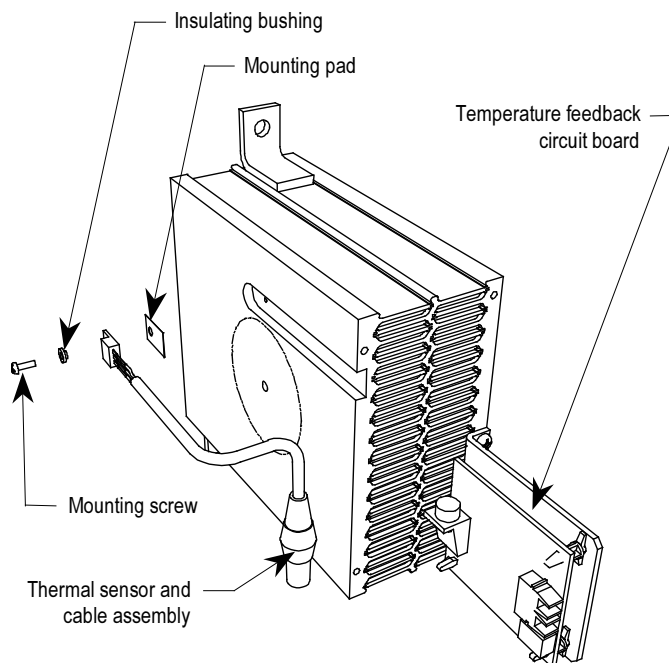

Figure 5.17 – Replacing the Thermal Sensor
11. Note there is a small voltage difference between the thermal sensor and its heatsink. For proper function, it is essential to mount the small insulating pad between the thermal sensor and the heatsink and the insulating bushing between the thermal sensor mounting screw and the thermal sensor (see Figure 5.17).